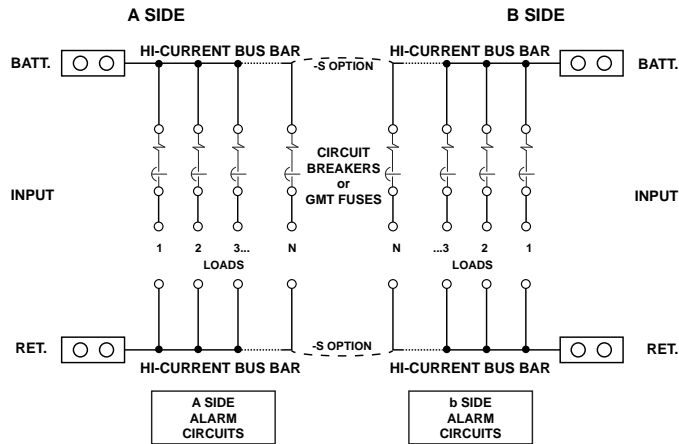

Figure 2. Block Diagram
| Figure 2. Block Diagram | 7 |
6.1 Power Distribution Circuits. A simplified schematic diagram of the distribution panels is shown in Figure 2. The battery input to each load connects to a high-current copper bus bar from which the individual fuses or circuit breakers distribute power to the loads. The return input connects to a similar bus bar to which the individual loads terminate. The A and B loads are totally independent and isolated with the exception of models incorporating the ‘S’ option.